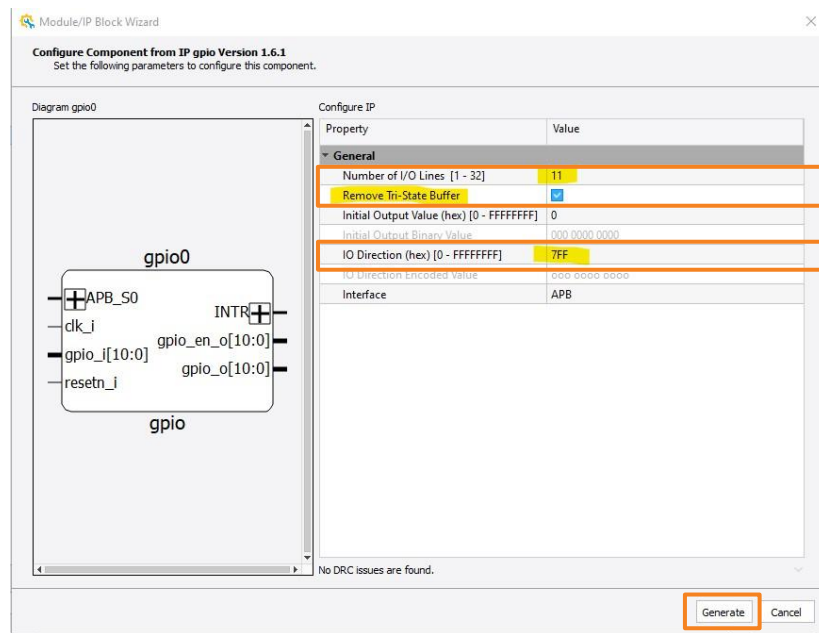

Figure 3.17. Propel Builder – GPIO IP Configuration
1. Double-click on the **gpio0_inst** component to open the IP configuration window, as shown in Figure 3.17.